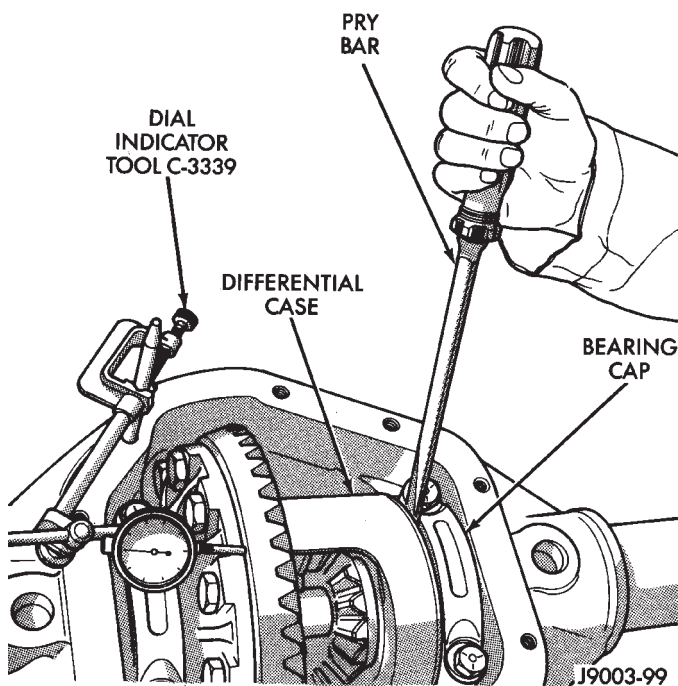

Fig. 59 Shim Pack Measurement
(1) Place Master Differential Bearing D-134 (D-348) on the case hubs.
(2) Place Differential assembly in the housing. Assemble Differential bearing caps.
(3) Install a pilot stud at the left side of housing. Attach Dial Indicator to housing. Load the indicator plunger against the back of the ring gear (Fig. 59). Ensure ring and pinion gear teeth are tightly meshed. Zero the indicator.